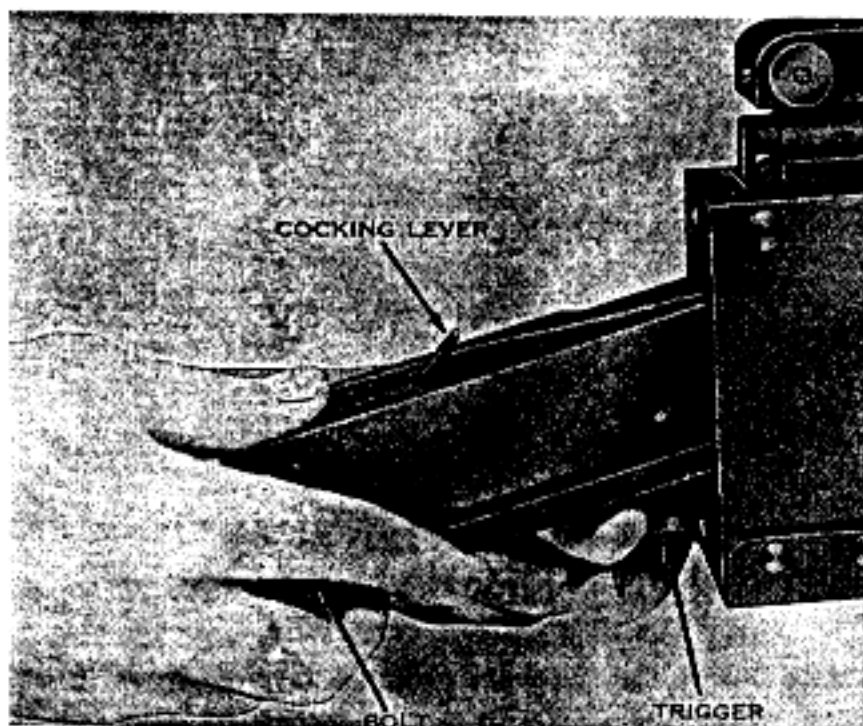

Figure 26. Starting the bolt into the receiver.
- (2) Grasp the bolt by the rear end and start the bolt into the receiver with the forward end slightly higher than the rear. Push down on the rear end of the trigger to prevent the front of the bolt from tripping the accelerator (fig. 26).